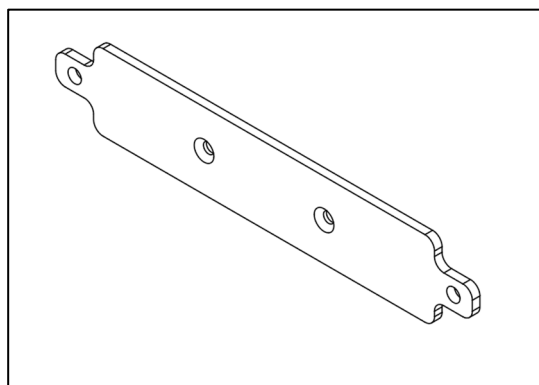

Figure 7.- Mounting kit accessory – fixing plate MEP-0004 – Optional accessory
- Fixing plate MEP-0004 (Aluminium) – 1 unit (Figure 7). See accessories catalogue MUSPAI for more information.
- When installing the InduEye® TG Duo with the mounting accessory (Figure 7), make sure that the bottom of the mounting accessory surface has good contact with the hot surface and there are no gaps to avoid the poor performance of the module.